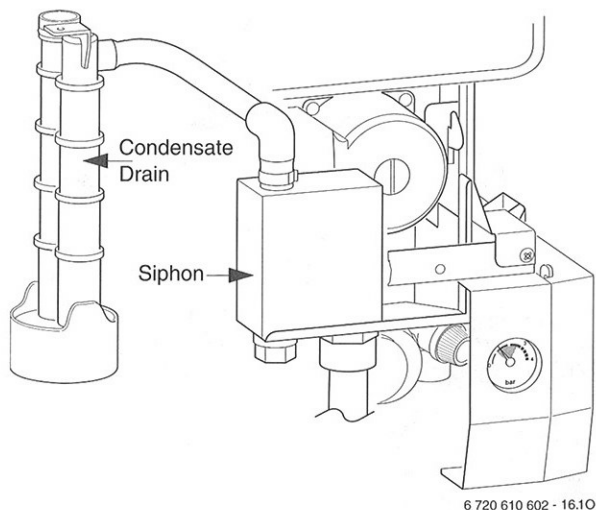

Fig. 54
- ▶ Unscrew and remove the the siphon by releasing the jubilee clip. Refer to fig. 54.